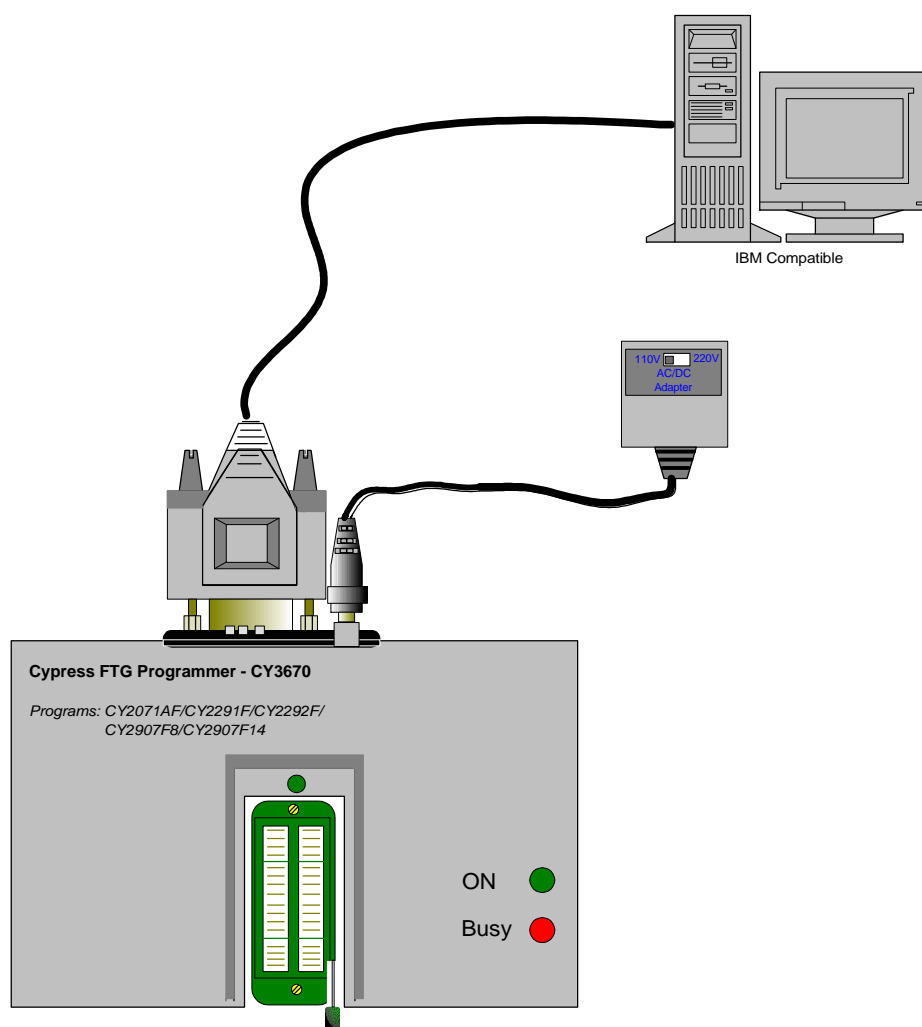

Figure 2. FTG Programming Kit Setup^[1]
The CY3670 FTG programming kit has a very simple setup procedure. As shown in *Figure 2*, the two connections are the power and the RS232 cable to the computer. The programmer must be hooked up to a PC through a serial port and must
1. When plugging the AC/DC adapter into an outlet, be sure to set the 110V/220V switch to the correct setting (110V in the US) as shown on the power adapter in Figure 2. If no switch exists it will automatically select between 110V and 220V.